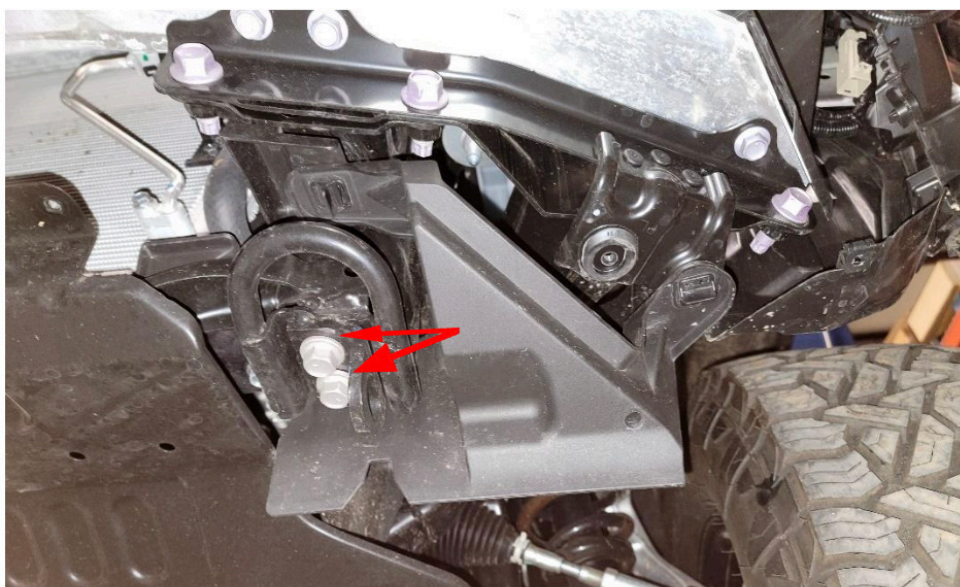

Figure 13.
12. Remove the tow hooks using a 17mm socket wrench to remove the two (2) bolts attaching them to the frame. Figure 13.